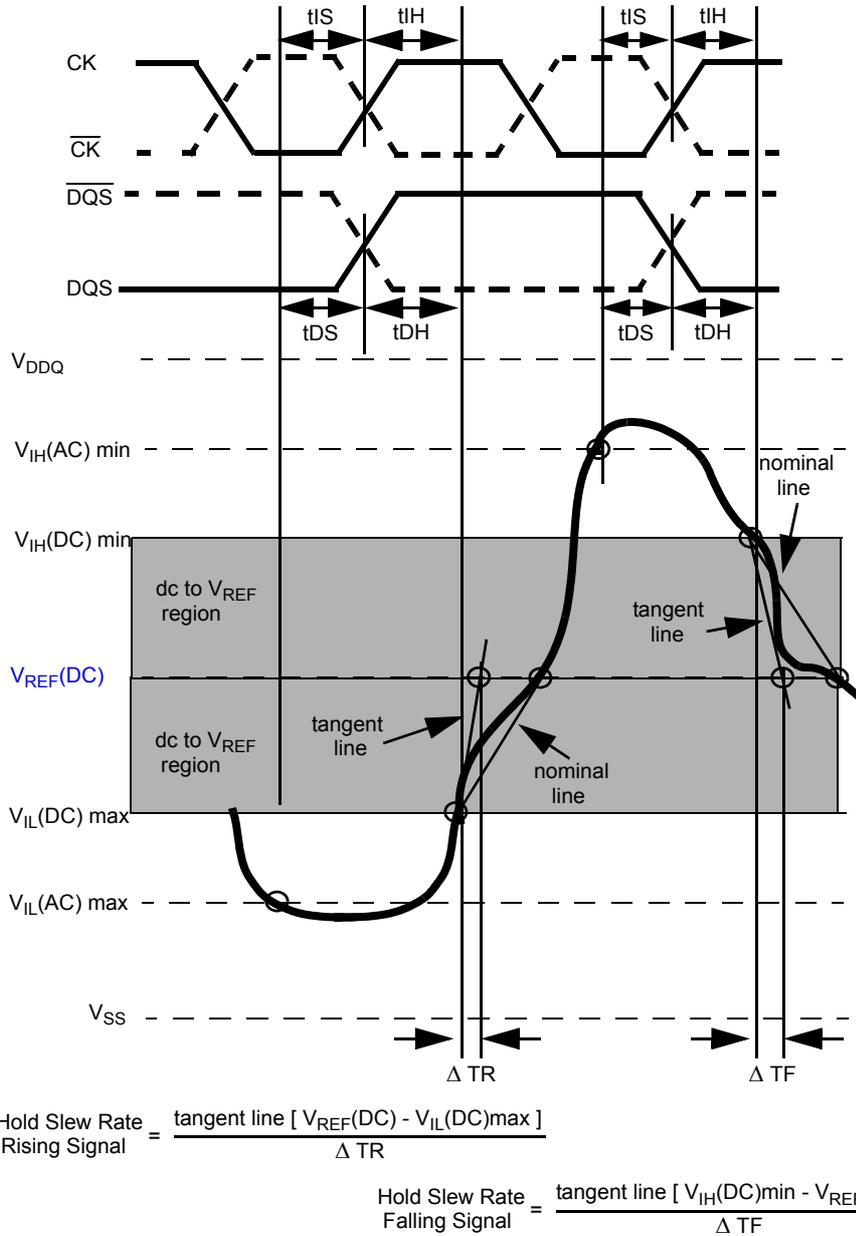

Figure 28. Illustration of tangent line for hold time t_{DH} (for DQ with respect to strobe) and t_{IH} (for ADD/CMD with respect to clock)
Hold (tDH) nominal slew rate for a rising signal is defined as the slew rate between the last crossing of V_{IL}(DC)max and the first crossing of V_{REF}(DC). Hold (tDH) nominal slew rate for a falling signal is defined as the slew rate between the last crossing of V_{IH}(DC)min and the first crossing of V_{REF}(DC) (see Figure). If the actual signal is always later than the nominal slew rate line between shaded 'dc level to V_{REF}(DC) region', use nominal slew rate for derating value. If the actual signal is earlier than the nominal slew rate line anywhere between shaded 'dc to V_{REF}(DC) region', the slew rate of a tangent line to the actual signal from the dc level to V_{REF}(DC) level is used for derating value (see Figure 28).